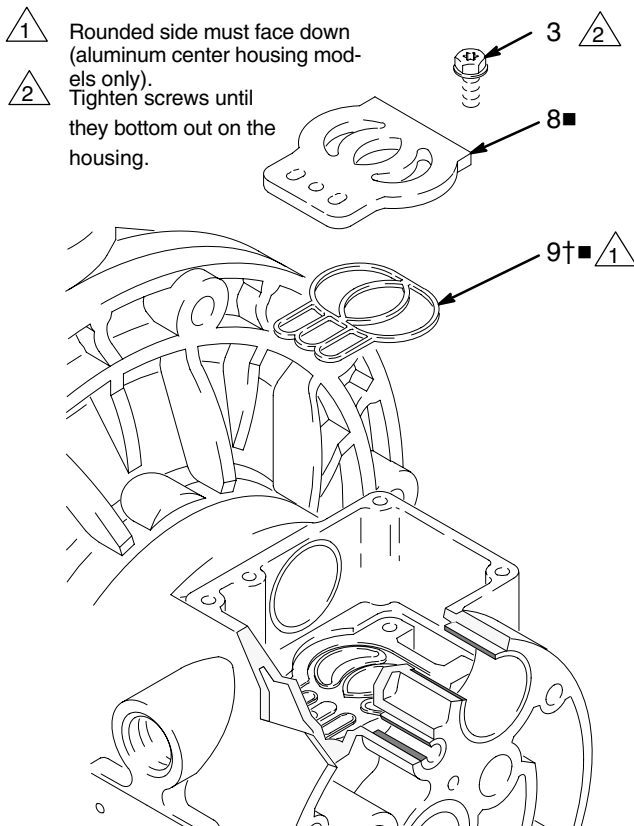

Fig. 9
5. Inspect the valve plate (8■) in place. If damaged, use a Torx (T20) screwdriver or 7 mm (9/32 in.) socket wrench to remove the three screws (3). Remove the valve plate (8■) and, on aluminum center housing models only, remove the seal (9). See Fig. 9.
2. On aluminum center housing models, install the valve plate seal (9†■) into the groove at the bottom of the valve cavity. The rounded side of the seal **must face down** into the groove. See Fig. 9.
3. Install the valve plate (8■) in the cavity. On aluminum center housing models, the plate is reversible, so either side can face up. Install the three screws (3), using a Torx (T20) screwdriver or 7 mm (9/32 in.) socket wrench. Tighten until the screws bottom out on the housing. See Fig. 9.